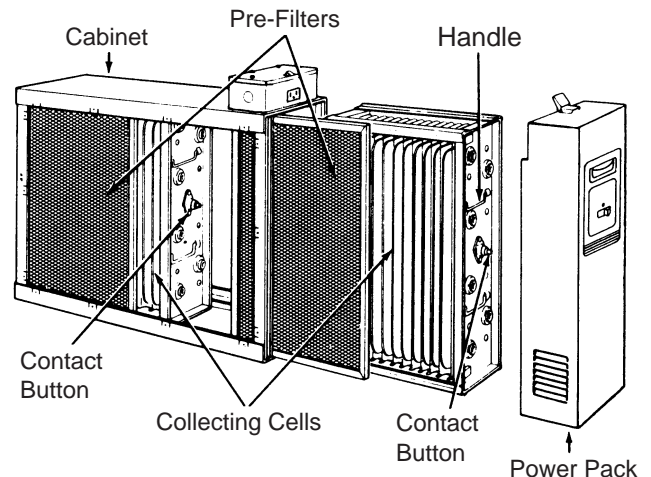

Figure 19
- With the cabinet installed, reinstall pre-filter(s) and collecting cell(s) (Figure 19).